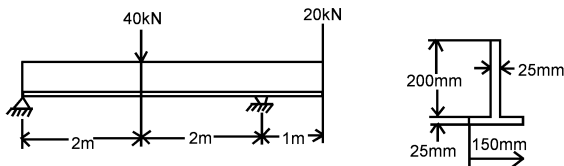

Fig. 6
5. A beam simply supported at ends and having cross-section as shown in Fig. 6 is loaded with a UDL, over whole of its span. If the beam is 8m long, find the UDL, if the maximum permissible bending stress in tension is limited to 30MN/m^2 and in compression to 45MN/m^2 . What are the actual maximum bending stresses set up in the section? (12)